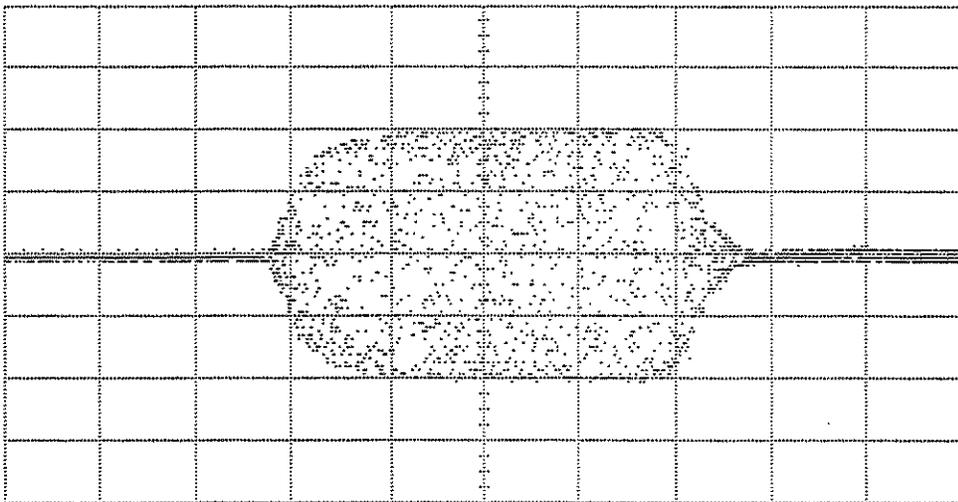

Figure 1-17. Pulse Width Measurement
2. Use the DELAY function on the oscilloscope to position the waveform to place the median of the rising edge on a vertical graticule. Refer to Figure 1-17.
6. Use the DELAY function on the oscilloscope to position the waveform to place the median of the rising edge on a vertical graticule. Refer to Figure 1-17.